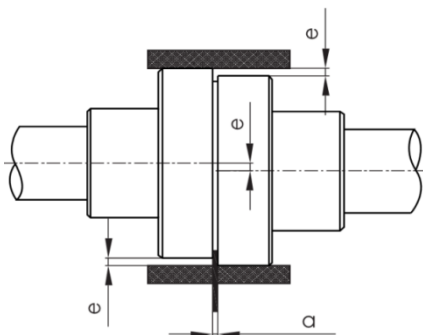

Fig.5.2. Flexible coupling alignment
- For checking the straight edge to a half of the coupling plate, keep it parallel to the axis and its position in relation to the other half to check the parallelism deviation. The straight edge must touch both coupling disc halves precisely in all points, in vertical and horizontal plane (Fig.5.2).